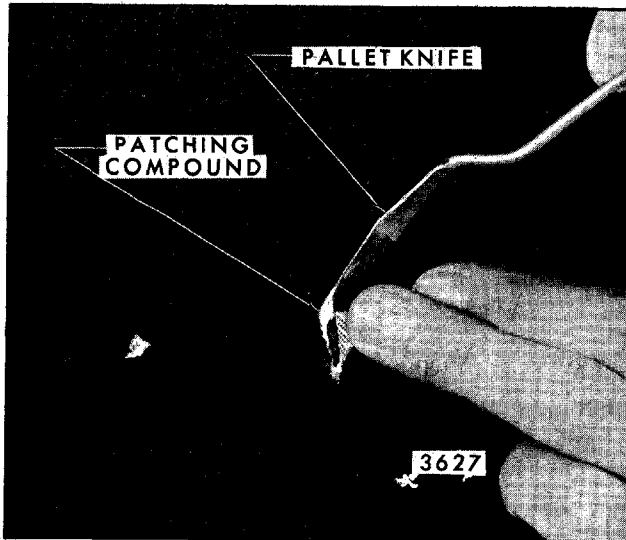
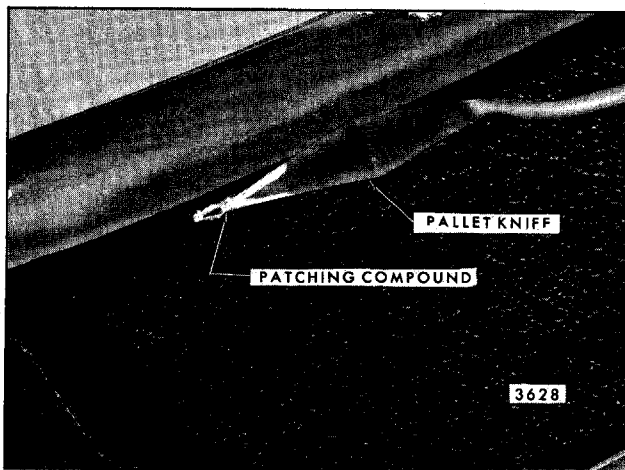

Fig. 8-53-Vinyl Repair Patching Compound Application
Fig. 8-54-Vinyl Repair Patching Compound Application
3. On damaged areas where no trimming was necessary, apply vinyl patching compound to edges of area as shown in Figure 8-53. Where trimming was required, apply compound to area being repaired and trowel flush with adjacent surface as shown in Figure 8-54. Remove any excess material (compound) with clean cloth.